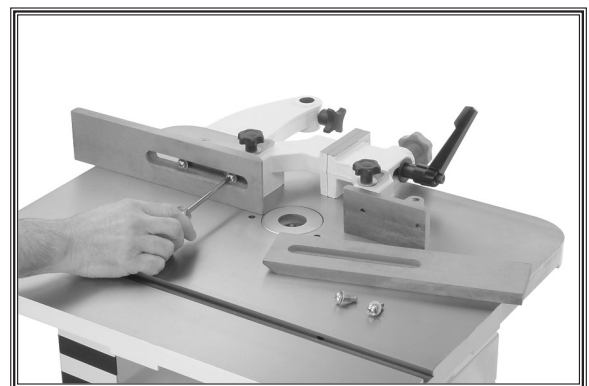

Figure 11. Installing fence facing.
7. Using the $\frac{5}{16}$ "-20 x $\frac{3}{4}$ " Phillips head screws, and $\frac{5}{16}$ " washers, install each fence facing to the fence mount brackets as shown in **Figure 11**.